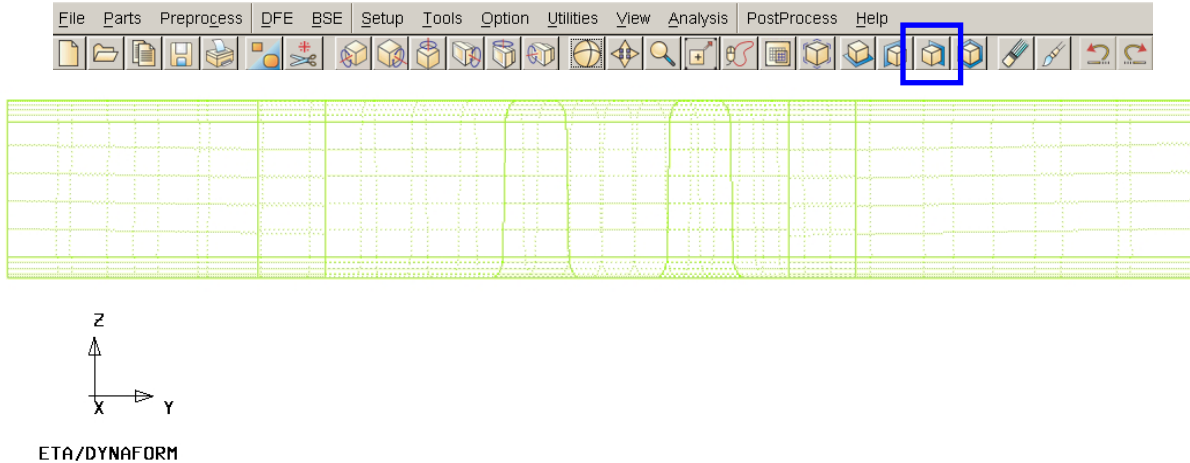

Figure 8: Illustration of model
3. Select **Right View (YZ Plane)**. The result is shown in Figure 8: